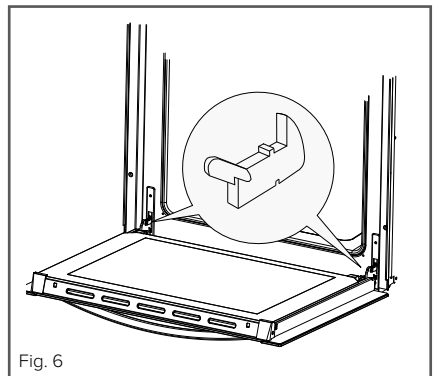

Fig. 6
- Lift and tilt the safety catch part of the hinge (fig. 6) so that it is fully extended and points towards the door.